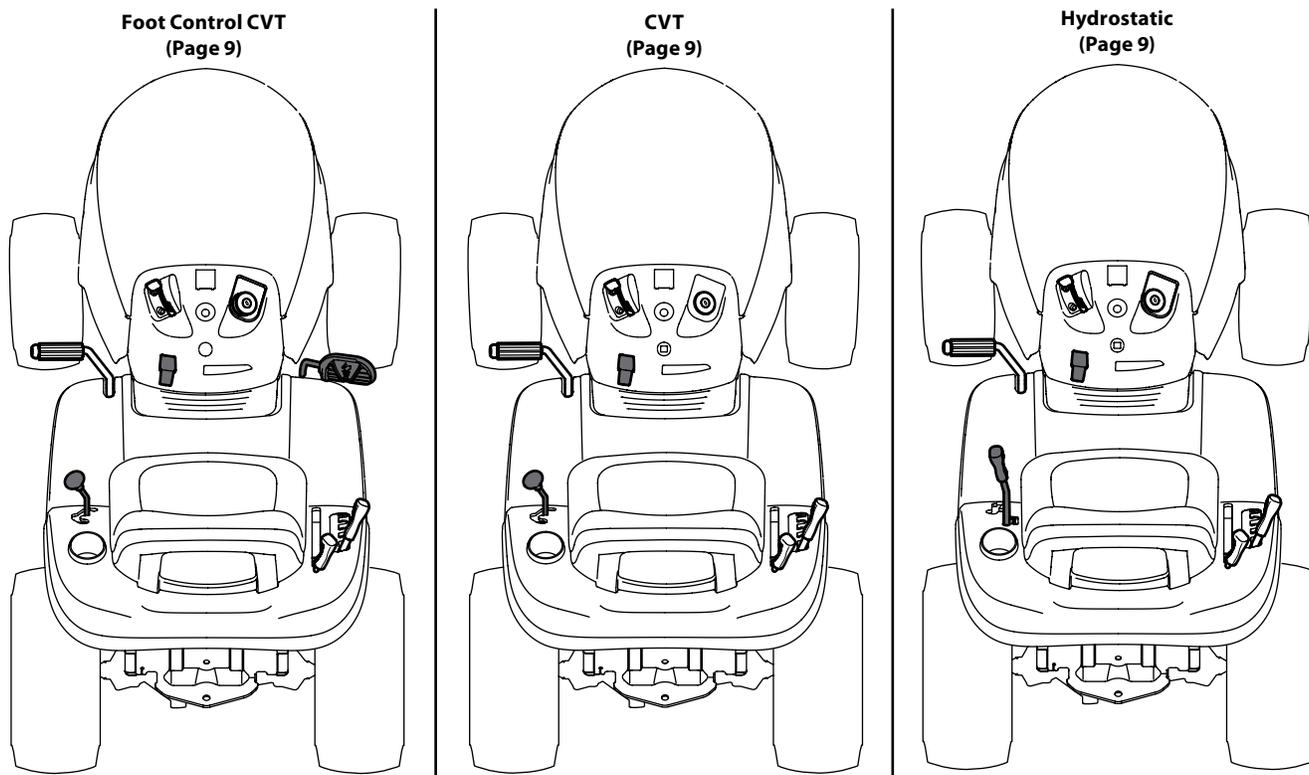

Figure 2-1
**Note:** This Operator's Manual covers several models. Features may vary by model. Not all features in this manual are applicable to all models and the model depicted may differ from yours. Refer to Figure 2-1 to match your transmission style; Foot Control CVT (Continuously Variable Transmission), CVT (Continuously Variable Transmission) or Hydrostatic.
Refer to Figure 2-1 and proceed to your applicable model for your gas tank.